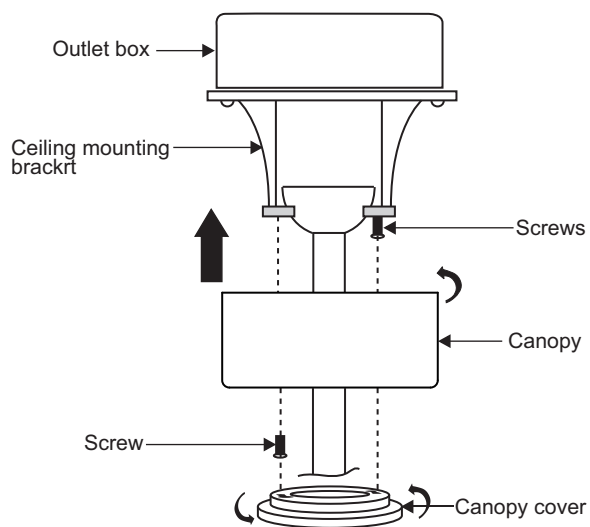

Fig. 14
Step 2. Slide the canopy up to the mounting bracket and place one of the key hole slots over the mounting screw on the mounting bracket. Rotate the canopy until the screw head locks in place at the narrow section of the key hole. See figure 14.
NOTE: Adjust the canopy screws as necessary until the canopy and canopy cover are snug. (Fig. 14)